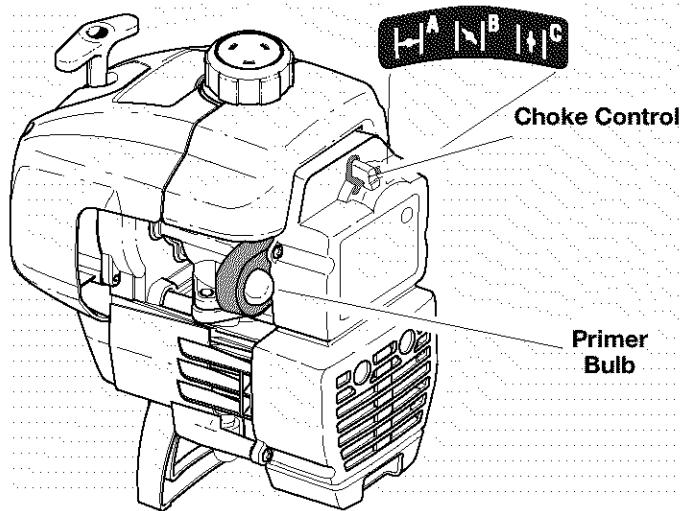

Fig. 16
1. Move On/Off Stop Control to **ON** (Fig. 16).
2. Fully press and release primer bulb 5 to 7 times. Fuel should be visible in the bulb (Fig. 16). If fuel hasn't entered the bulb, press three (3) more times or until it does.
3. Move choke control (Fig. 16) to **CHOKE (I-A)**.
NOTE: If the engine floods while trying to start, place the choke lever in the **RUN (C)** position (Fig. 16). Squeeze the throttle control. Pull the starter rope briskly. The engine should start within three (3) to eight (8) pulls.